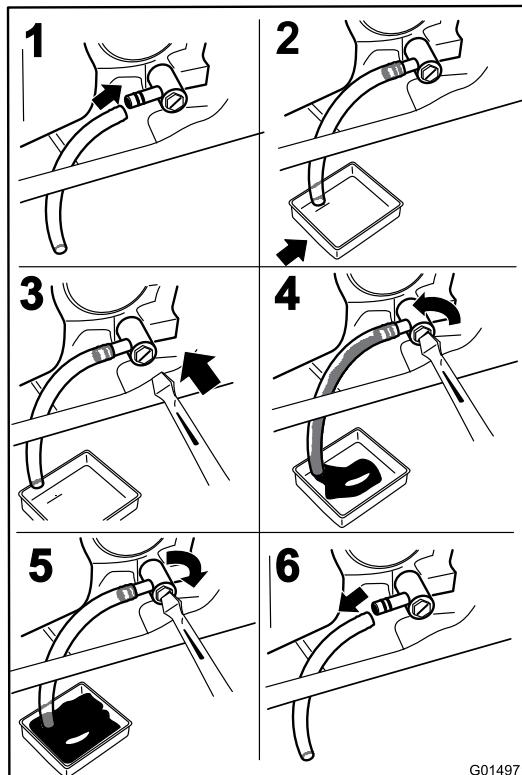

Figure 40
- Stop the engine, remove the key, and wait for all moving parts to stop before leaving the operating position (Figure 40).